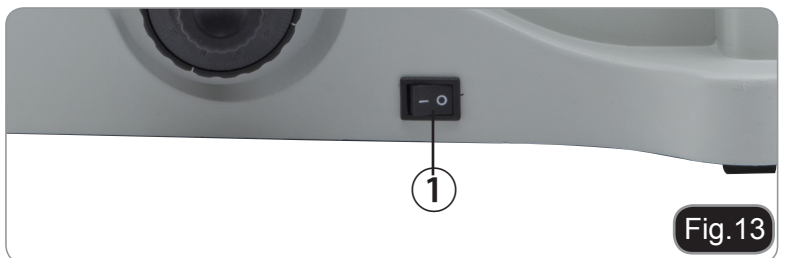

Fig.13
1. Turn the main switch ① to "O"(off) before connecting the power cord. (Fig.13)